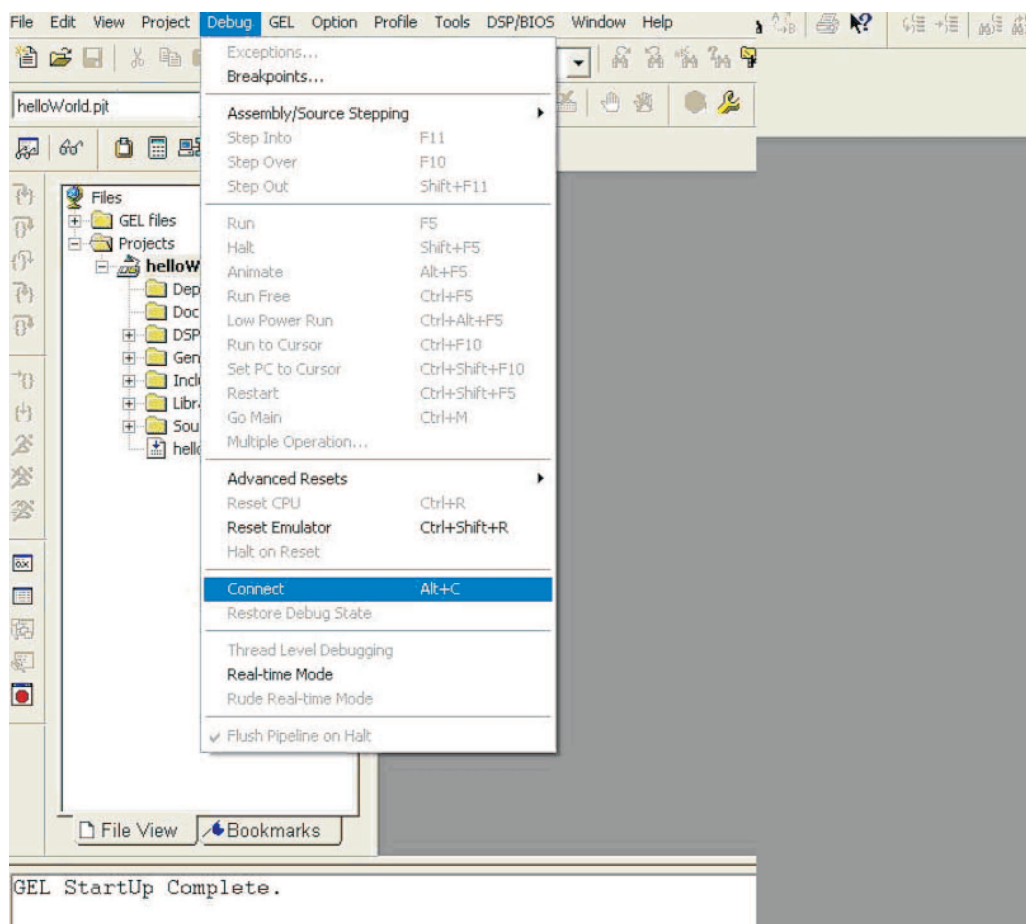

Figure 6. DM642 Connect Procedure
15. Connect to DM642 by entering *Alt + C* or by clicking on Debug → Connect if not already connected to the debugger on the DM642, as shown in Figure 6.